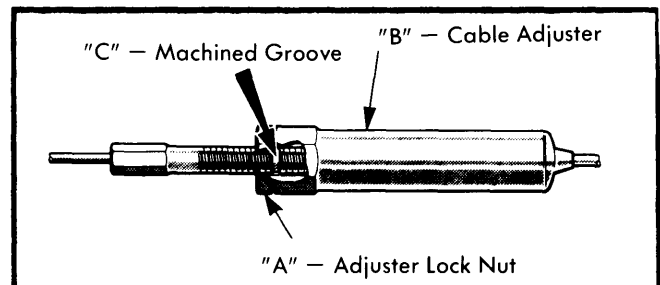

Fig. 2 Fiesta Parking Brake Adjuster
- 3) Loosen adjuster nut "A" See Fig. 2.